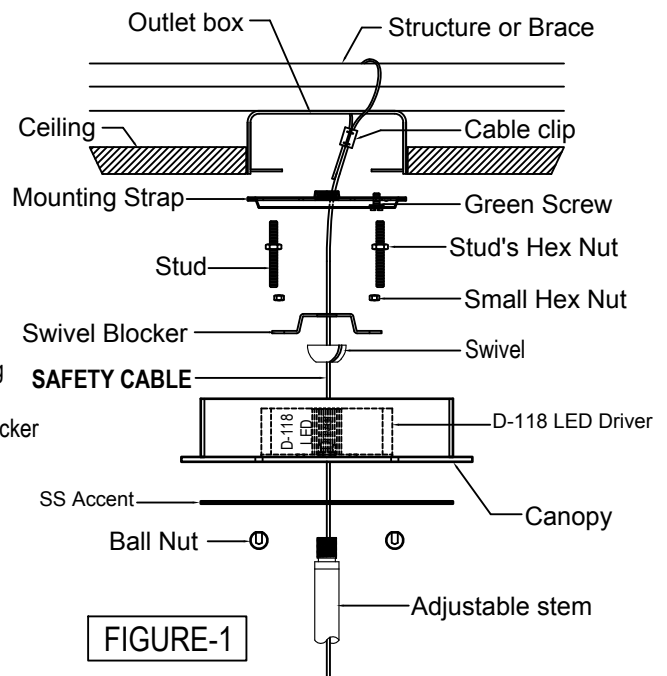

FIGURE-1
1. Attach the SAFETY CABLE to the building structure or brace. See Figure-1.